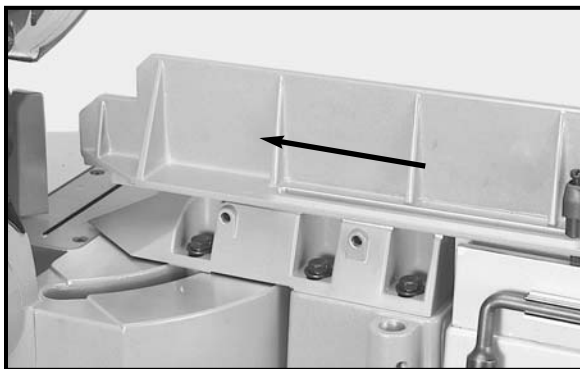
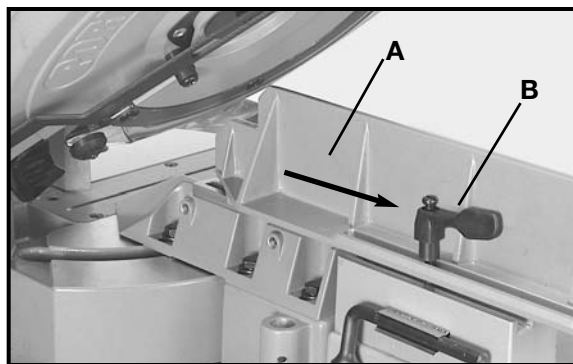

Fig. 25A
Fig. 25B
The high sliding fence (A) Fig. 25A, provides support for extra large workpieces used with your saw and should always be set as close as possible to the saw blade. When miter cutting (blade set 90 degrees to the table and at an angle to the right or left), the fence should be set all the way toward the blade, (Fig. 25A). When bevel cutting, however (blade tilted at an angle to the table), the fence (A) Fig. 25B, should be moved away from the blade to allow for proper clearance for the saw blade and guard, (Fig. 25B). To accomplish this movement, loosen the lock handle (B), and slide the fence (A) to the desired location. Tighten the lock handle (B).
**NOTE:** Lock handle (B) is spring-loaded and can be repositioned. Pull up on handle to reposition it on the serrated nut located underneath handle.